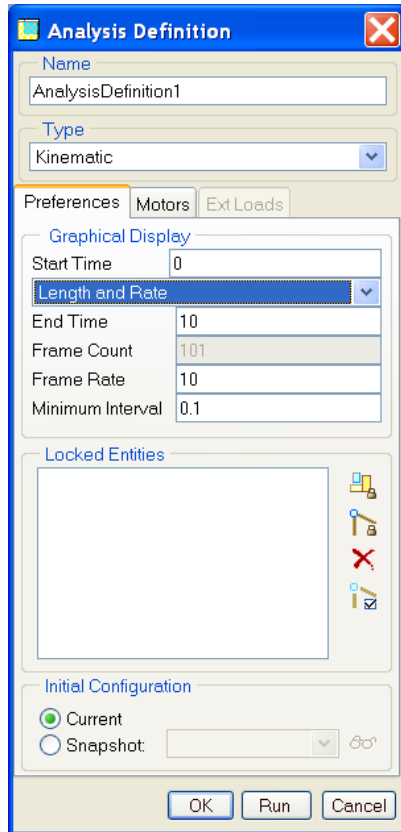

Figure 5a
- a) Select **Analysis > Mechanism Analysis** or click . The **Analysis Definition** dialog box opens as shown in figure 5a.